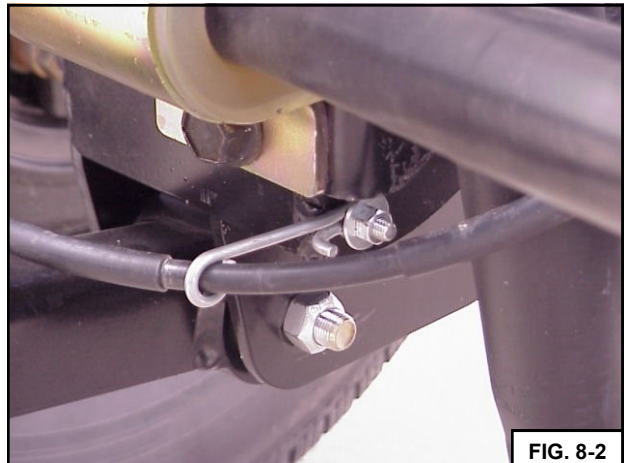

FIG. 8-2
- c Now drill a 5/16" hole in the Axle Bracket as shown in Fig. 8-2, and bolt the brake rod guide into the hole.